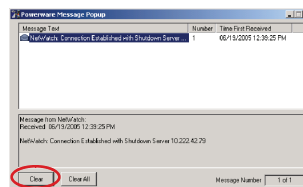

Figure 23. Clear Communication Message
13. A pop-up message indicates that communication with the adapter is established (see Figure 23). Select **Clear** to acknowledge the message.